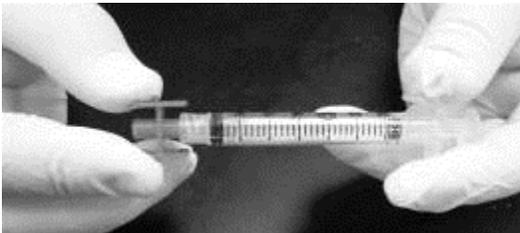

Figure 2
5. Firmly connect the mixing syringe to the RADIESSE syringe using the female-to-female luer lock connector (see Figures 2 and 3).